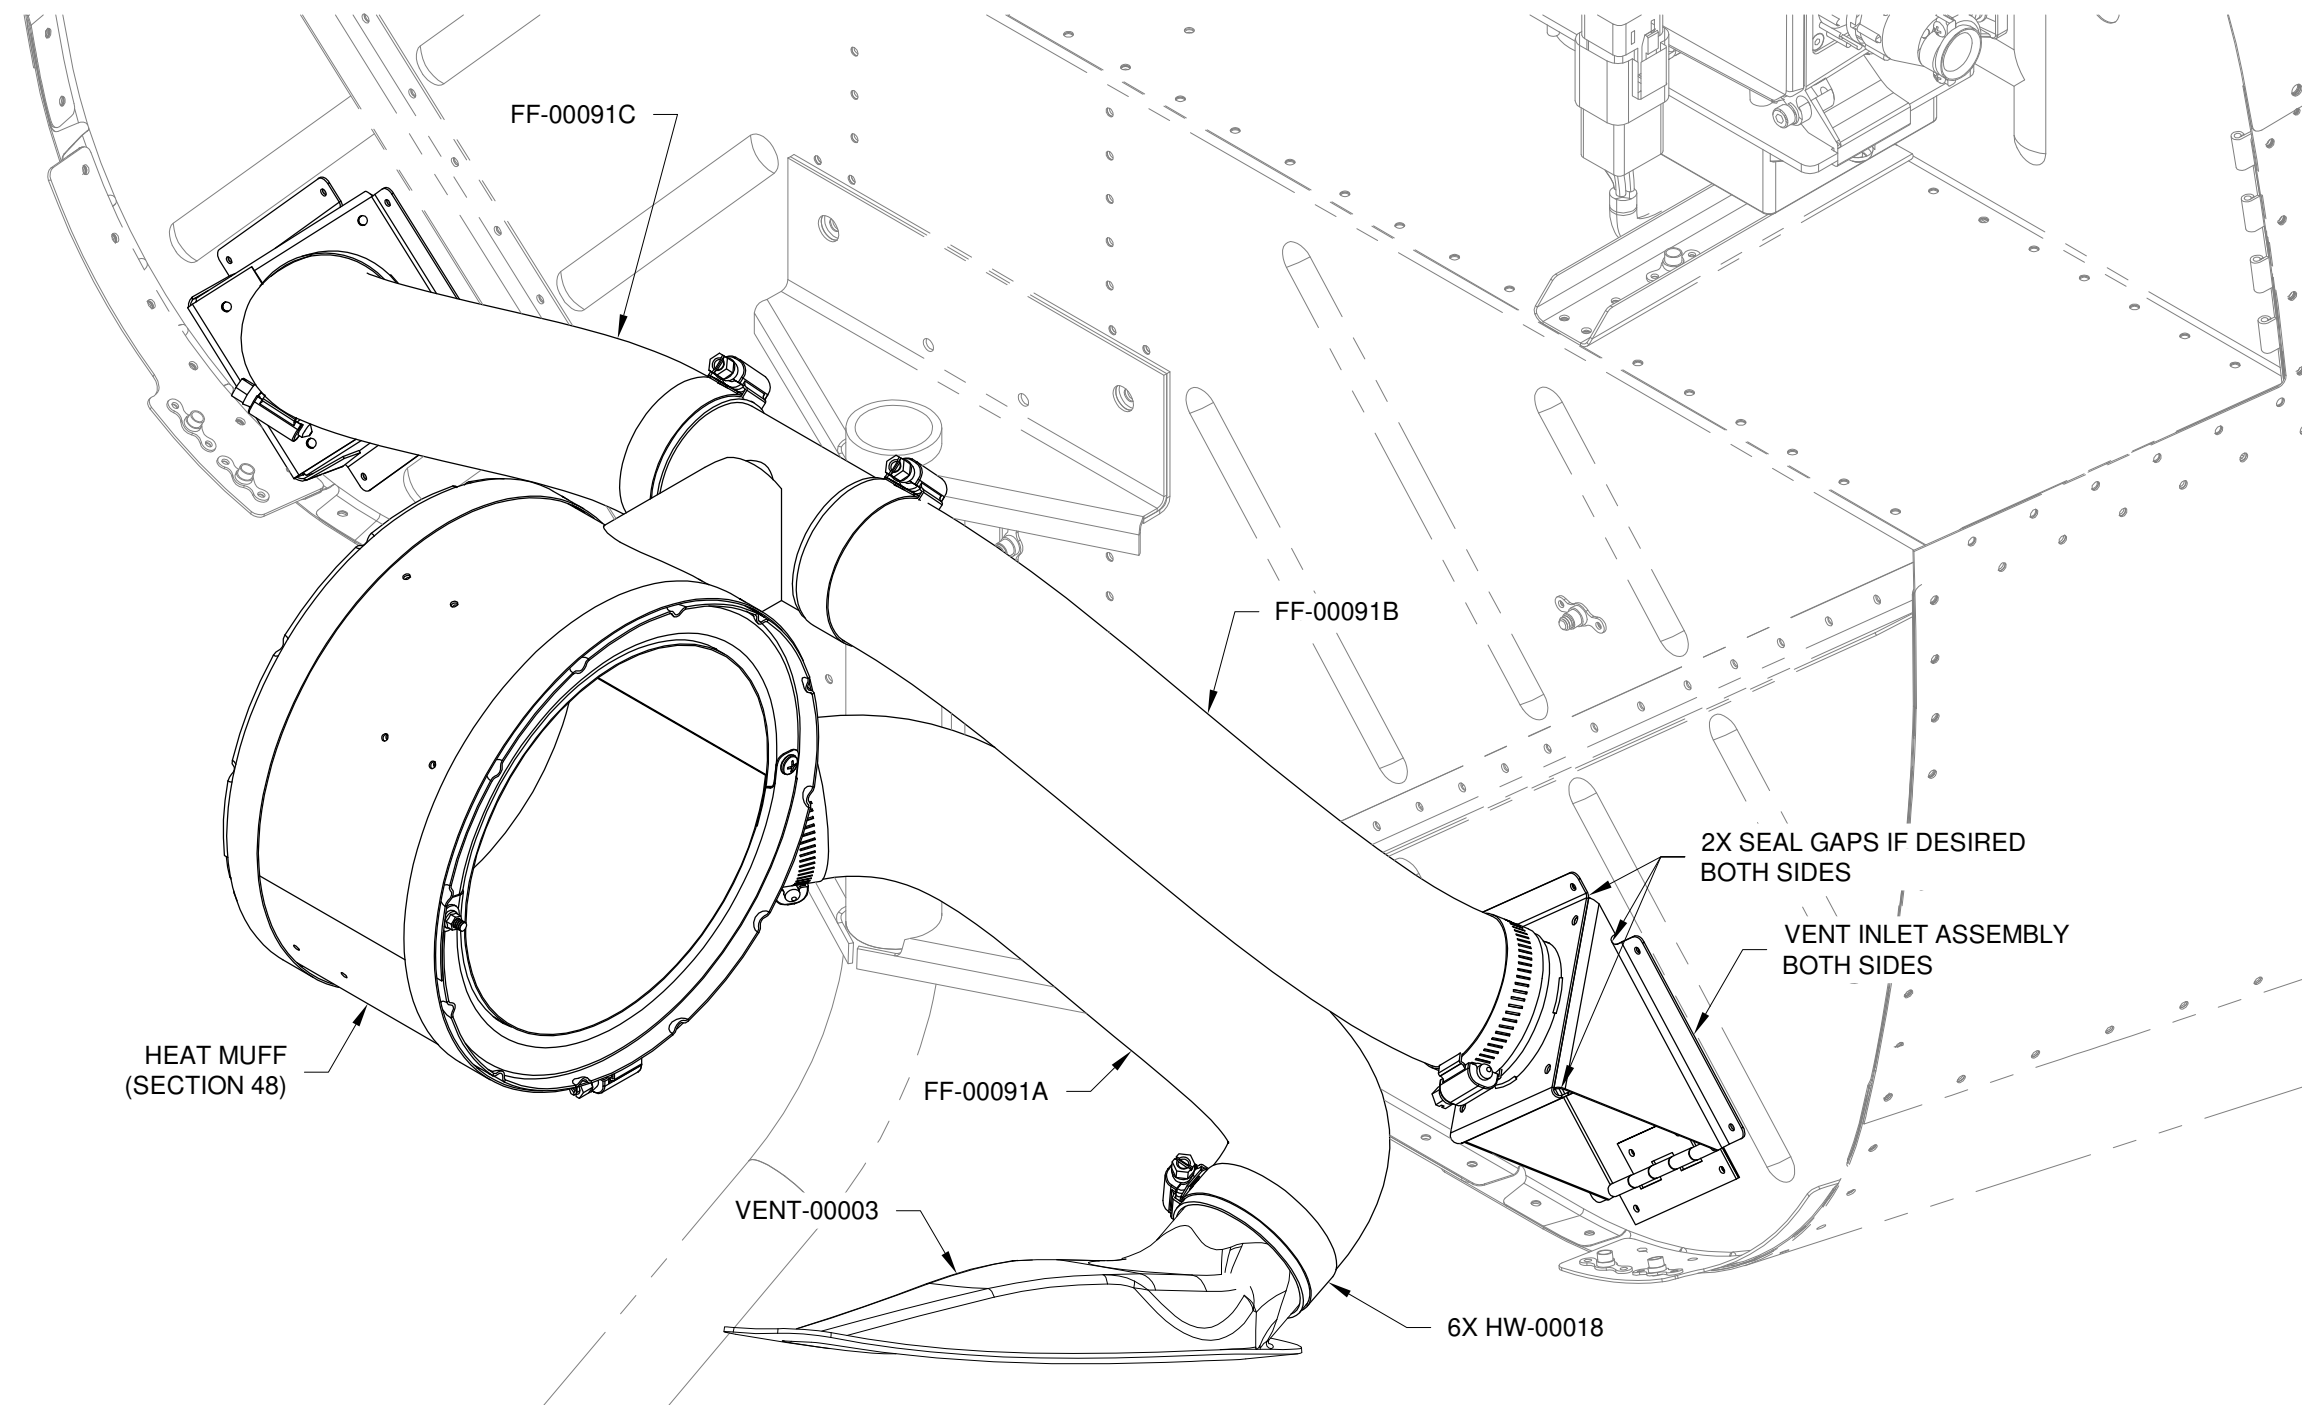

FIGURE 1: ATTACH HEAT MUFF HOSES
Step 3: Connect the FF-00091A, B, & C to the heat muff as shown in Figure 1.
Step 4: Connect the FF-00091B, & C to the two Vent Inlet Assemblies as shown in Figure 1.
Step 6: If desired, seal any gaps in the Vent Inlet Assemblies with RTV as shown in Figure 1. This will increase heater performance.